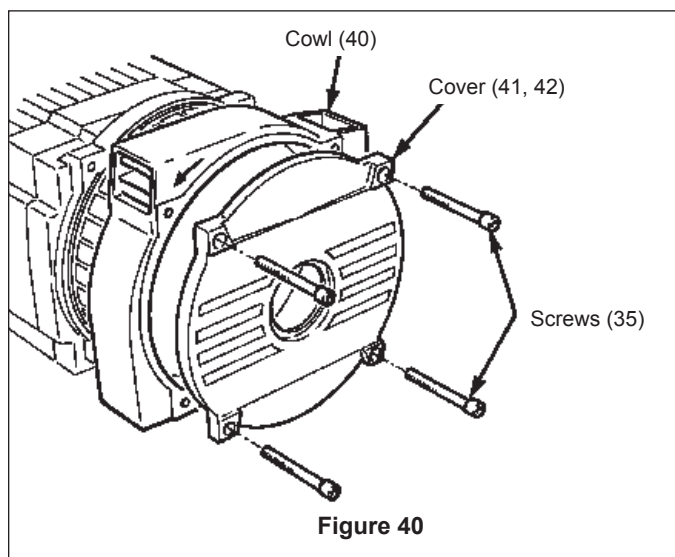

Figure 40
- b. It is important the split sleeve screws (36) be tightened to the specified torque of 15 lbs ft (20 Nm) using a calibrated torque wrench.
17. Replace cowls (40) so that the arrows are on top and facing the direction of rotation. Replace the cover (41, 42). Install and tighten the screws (35) to 18 lbs ft (25 Nm). See Figure 40.